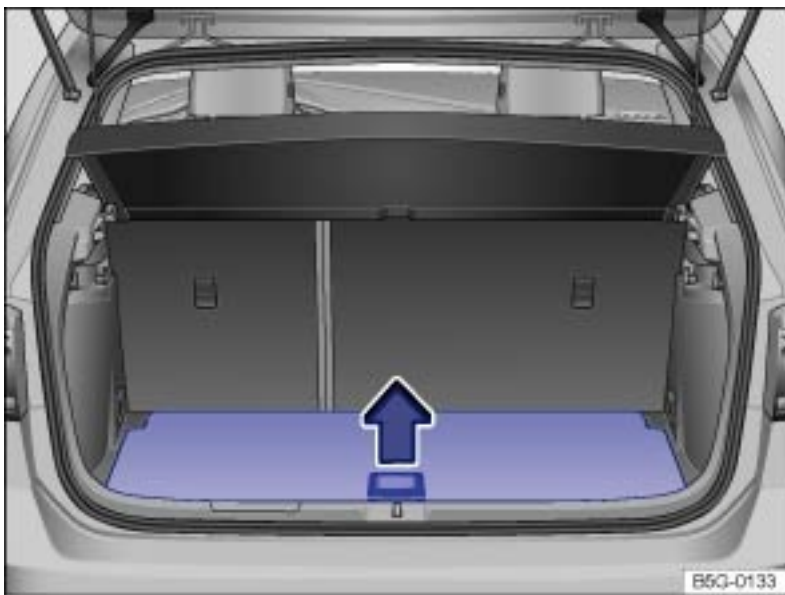
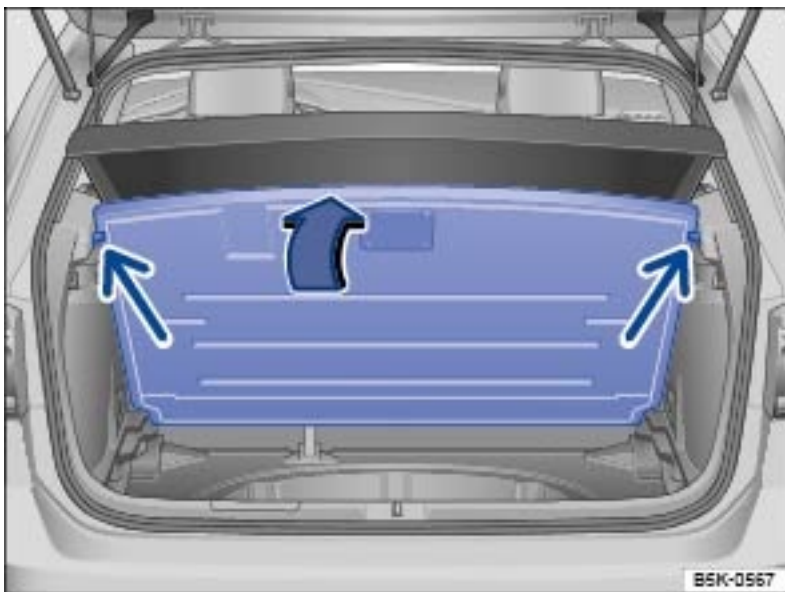

Fig. 103 In the luggage compartment: Opening the variable luggage compartment floor.
Fig. 104 In the luggage compartment: Variable luggage compartment floor folded up.
- To open the luggage compartment floor, lift the recessed handle → Fig. 103 and guide the floor upward until it is held in position by the stops on either side of the luggage compartment → Fig. 104 (arrows).
- Grasp the recessed handle → Fig. 103, lift the luggage compartment floor, and pull it rearward out of the guides on the sides of the luggage compartment.